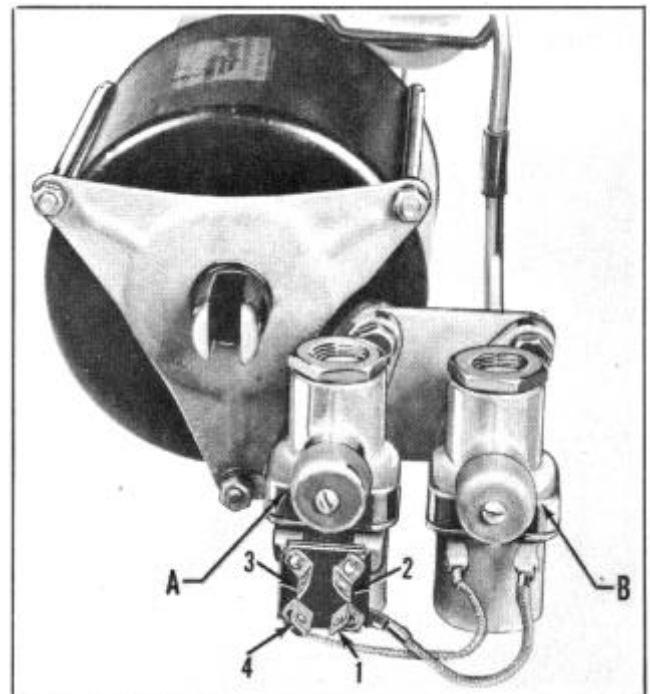
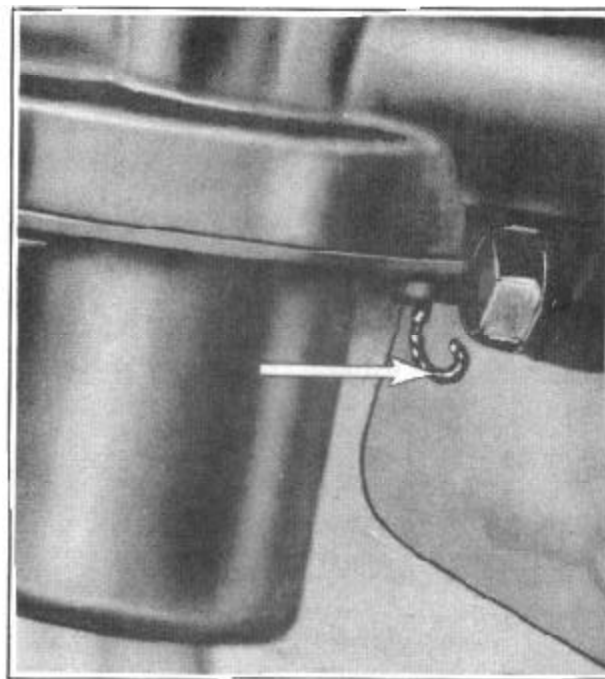

FIGURE 42
FIGURE 43
Disconnect the wires at throttle lock solenoid (B) Figure 42, connect a jumper wire from the battery negative terminal to either throttle lock solenoid terminal, valve should operate. Move the jumper wire to the other terminal, valve should operate.
With engine idling disconnect the wires at throttle solenoid Figure 42 at B; attach jumper wire from the negative battery terminal successively to each terminal. Lock should operate in each case. If it does not operate, check for a defective solenoid, ruptured diaphragm, or a defective throttle lock ground wire, Figure 43.